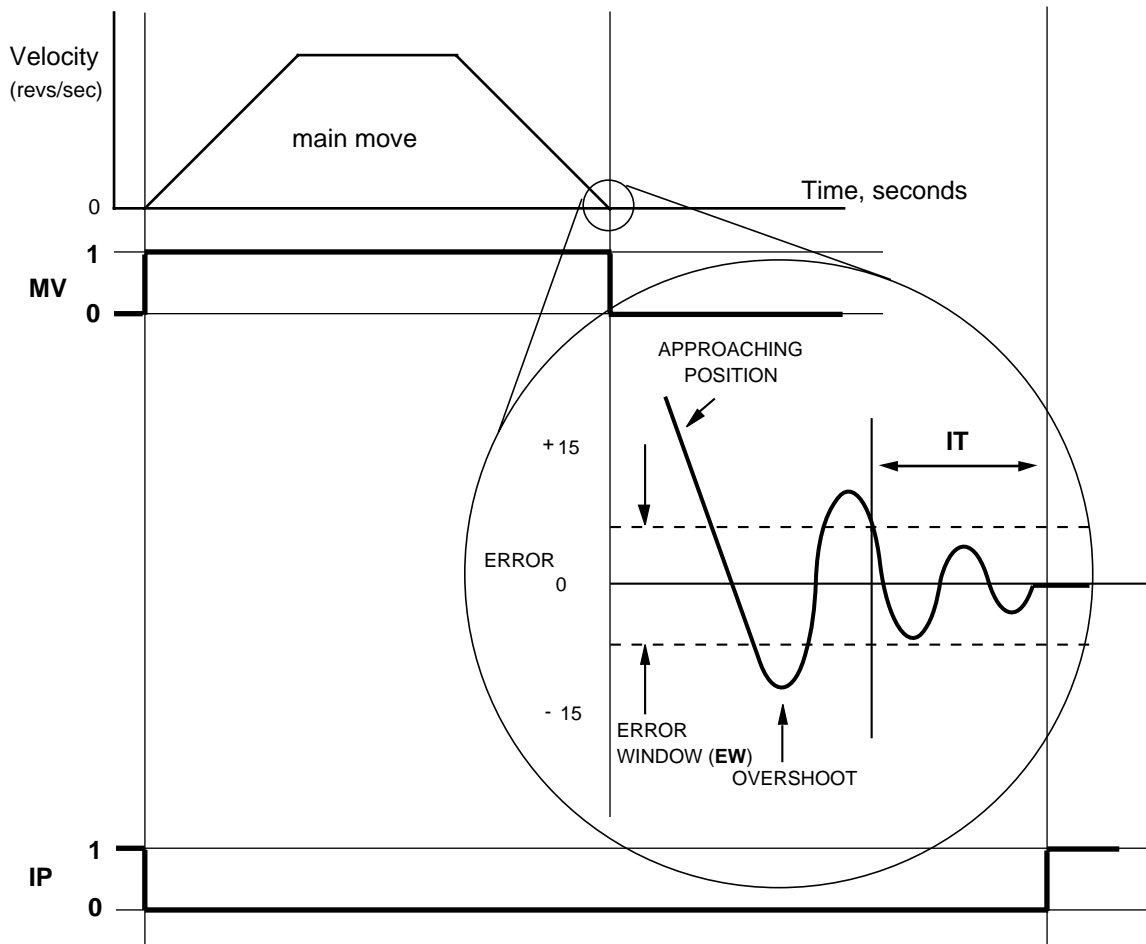

Figure 4-2. Interaction of MV, IP, IT & EW
System flag variables IP (In Position) and MV (Moving) together with variable IT (In position Time) and Error Window (EW) interact with one another as shown in Figure 4-2. The MV flag is only high whilst commanded motion is taking place. The IP flag can only go high once movement has stopped and the IT timer value has timed-out. This happens when velocity variations remain within the confines of the Error Window (EW) for a time determined by the value of In position Time (IT).